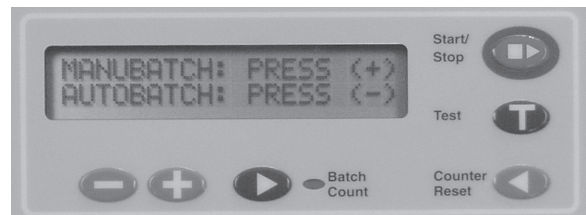

Fig. 3
1. To enter the manual batch counting mode press the “Batch Count” button and select “MANUBATCH” by pressing the “+” button (Fig 3) .
1. To enter the Autobatch mode press the “Batch Count” button and select “AUTOBATCH” by pressing the “-” button (Fig 3).